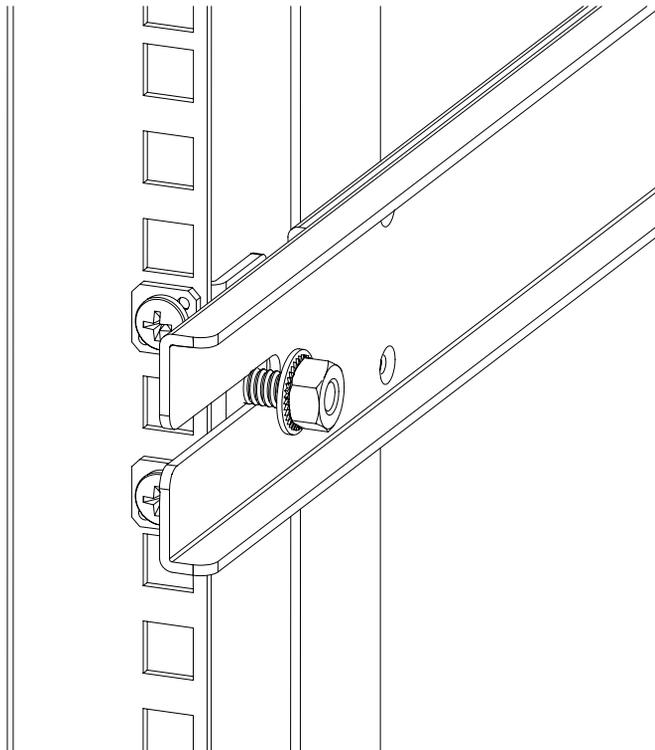

Figure 4: Installing the outer rails (HP 9000 Series or comparable EIA rack)
- a. Attach the left outer rail and the right outer rails to the rear mounting brackets using (2) 1/4-20 hex nuts with captive star lock washers attached loosely as shown in Figure 4. Don't tighten them. The nuts will be tightened later in step 8.
8. Tighten the nuts installed in step a of step 4 on page 5. See Figure 4.